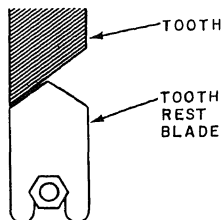

Figure 13-22.—Resting the face of a tooth on its corresponding side of the tooth rest blade.
7. Rest the face of a tooth on its corresponding side of the tooth rest blade (fig. 13-22).